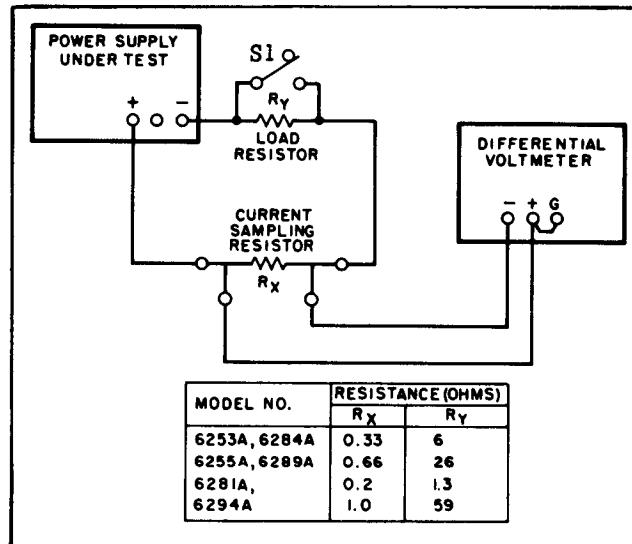

Figure 5-4. Output Current Test Setup
a. Connect test setup as shown in Figure 5-4 leaving switch S1 open.